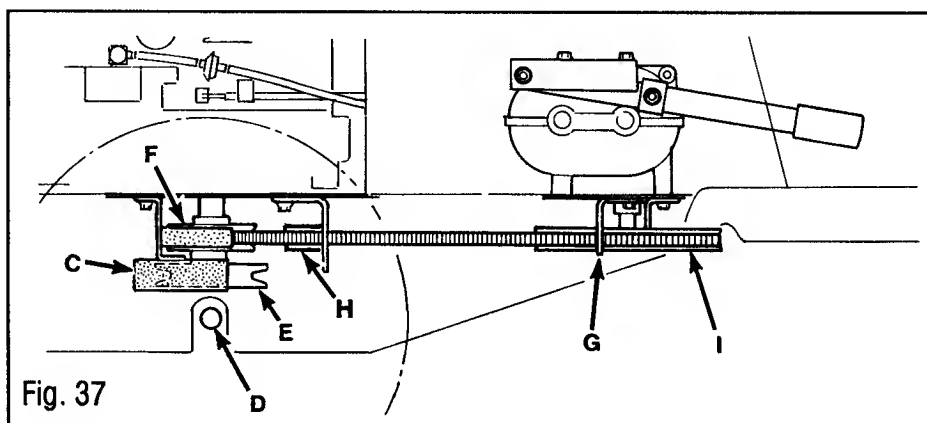

Fig. 37
4. Remove belt guide (C, Fig. 37) behind engine pulley.
A. Place belt into sheave (F). It may be necessary to rotate differential to assemble.
B. Loosen transmission pulley belt guides (G).
C. Loosen idler pulley (H).
D. Place forward portion of belt onto transmission pulley (I).
E. Place belt between idler pulley (H) and belt guide.
G. Re-tighten belt guides (G) $1/8"$ (.32 cm) away from sheave (F).
6. Re-install and re-tighten belt guide (C). Position guide as far forward as possible. After assembly, check clearance between guide (C) and bolt heads on differential. A $1/8"$ minimum clearance should exist.